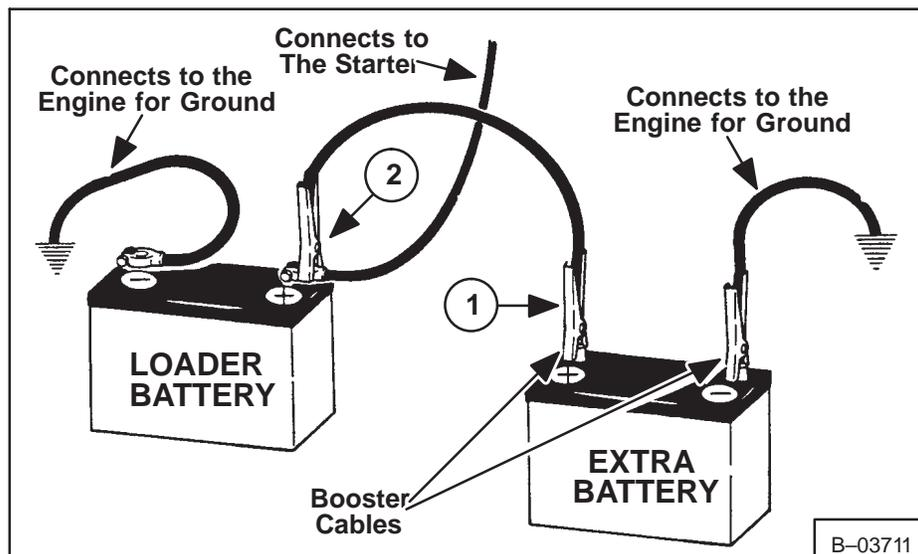

Fig. 1-24 Connecting the Extra Battery
5. Connect the end of the first cable to the positive terminal (+) of the booster (Fig. 1-24, Item 1). Connect the other end of the same cable to the positive terminal (+) of the loader battery (Fig. 1-24, Item 2).
6. Connect the end of the second cable to the negative terminal (-) of the booster battery (Fig. 1-24, Item 3). Connect the other end of the second cable to the engine (Fig. 1-24, Item 4). DO NOT connect the cable directly to the negative terminal (-) of the loader battery. Connecting the cable directly to the battery can cause a spark and destroy the battery and cause personal injury.
9. After the engine has started, remove the cable connected to the engine (Fig. 1-24, Item 4).
10. Then remove the cable from the loader battery post positive terminal (+) (Fig. 1-24, Item 2).